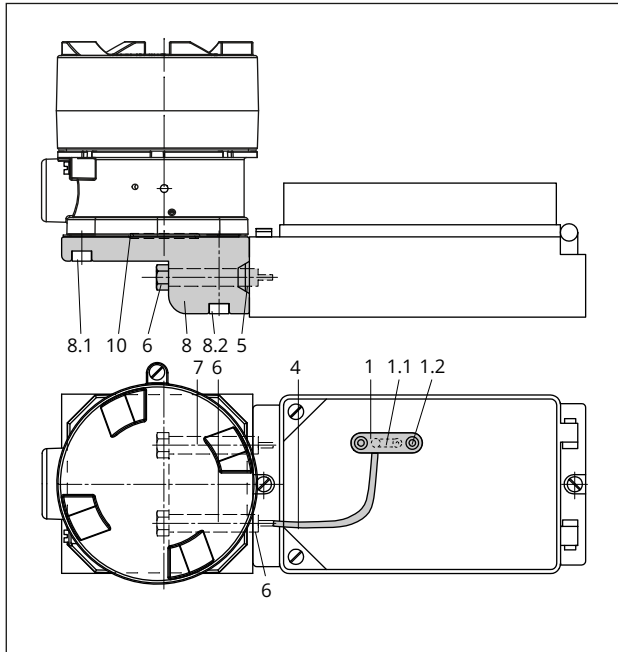
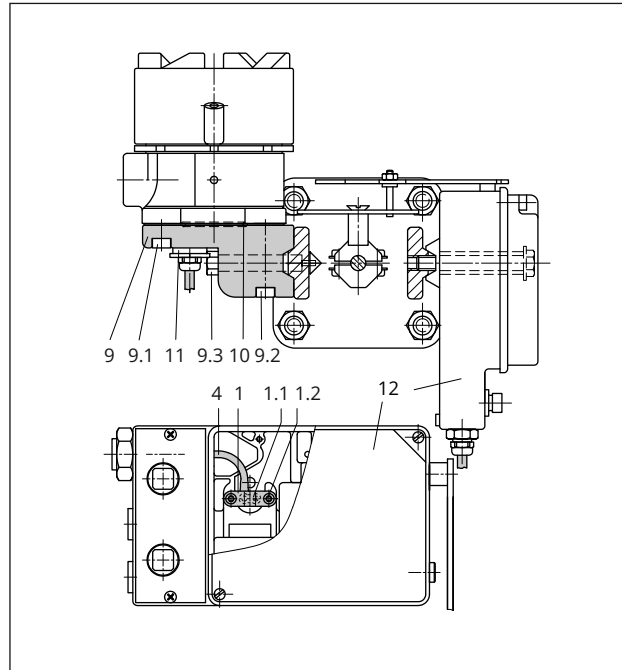
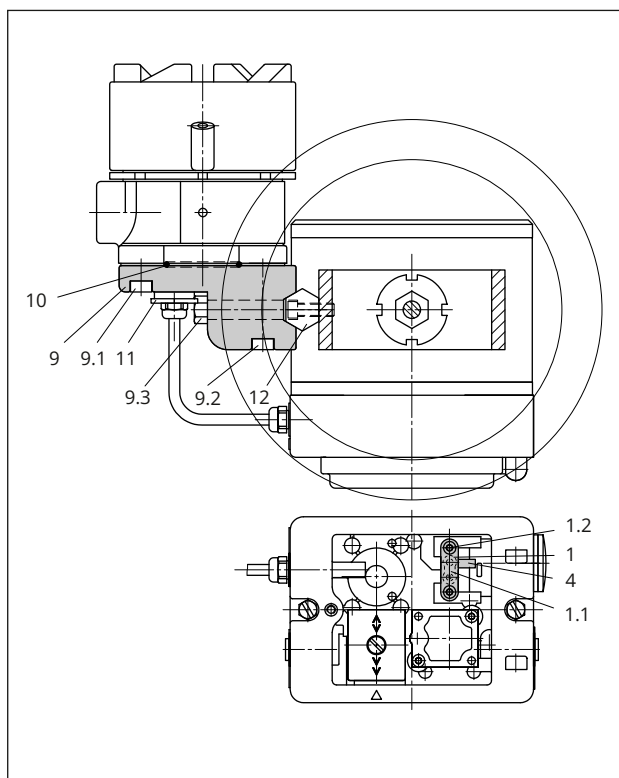

Fig. 15: Direct attachment to Type 3766 Positioner
Fig. 16: NAMUR attachment to valve with Type 4765 Positioner
Fig. 17: Attachment to micro-flow valve with Type 3760
For direct attachment to the Type 3766-000 Positioner (see Fig. 15), the converter is connected using the hollow screw with grommet (6) and threaded bushing (5). The second screw (7) is used to vent the converter over the positioner housing. Before attaching the connecting piece (8) to the positioner, remove the M20 screw plug and the connecting nipple (input signal).
Type 4765 and Type 3760 Positioners (see Fig. 16 and Fig. 17): The ½ NPT threaded connection of the connecting piece (9) needs to be fitted with a suitable cable gland and must be connected to the input connection (input signal 27) of the positioner using a pipe or hose.
Plug on silicone hose (4, see Fig. 15 and Fig. 16).
Place on cap (4, see Fig. 17).